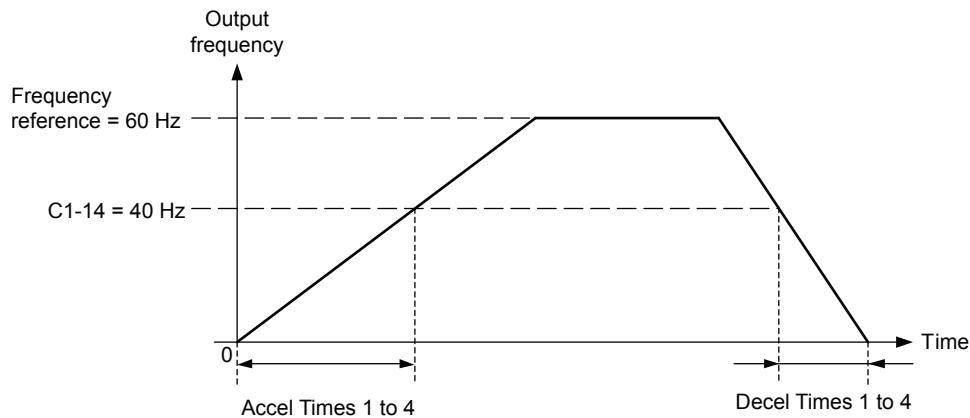

**Figure 5.24 Accel/Decel Rate, Example 1 (C1-14 = 0 Hz, E1-04 = 60 Hz, Frequency Reference = 60 Hz)**
Operation example is shown in Figure 5.24.
1. The accel/decel times shown in Figure 5.24 to Figure 5.26 assume S-curve characteristic time during accel/decel at start and accel/decel at stop of 0.00 s (parameters C2-01 to C2-04).